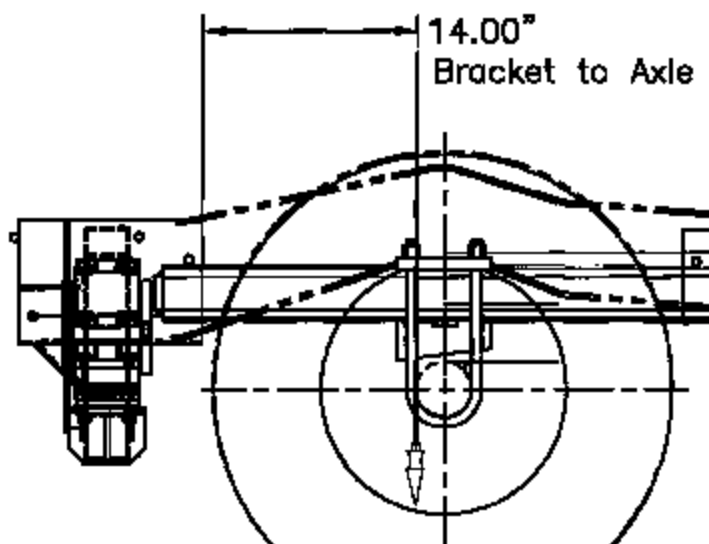

FIGURE 1
1. Prior to Removing the OEM Suspension: Park the vehicle on a relatively level surface to install the suspension system. Chock the front and rear sides of both front wheels. Prior to removal of the OEM suspension system, measure and note the ride height of the vehicle (ground to top of frame measurement). Also punch mark the frame rail with the axle location on both sides of the vehicle by dropping a plumb bob aligned to the front edge of the axle. These punch marks will be used to check and verify the axle's alignment (Figure 1).
9. Align Axle. Using a plumb bob aligned to the punch marks on the frame rails check the alignment of the axle and adjust if necessary (+/- 1/8 inch) with the U-bolts loose (Figure 1). Then tighten the 5/8" U-bolt nuts to a torque of approximately 125 -150 ft-lbs. From the back edge of the front sub-frame bracket to the front edge of the axle should measure 14.00 inches. The right and left sides should be within 1/4 inch of one another.